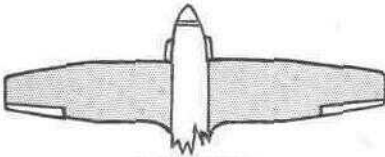

Fig. 20. Compound taper
- (f) Compound taper (Fig. 20) Junkers Ju88.